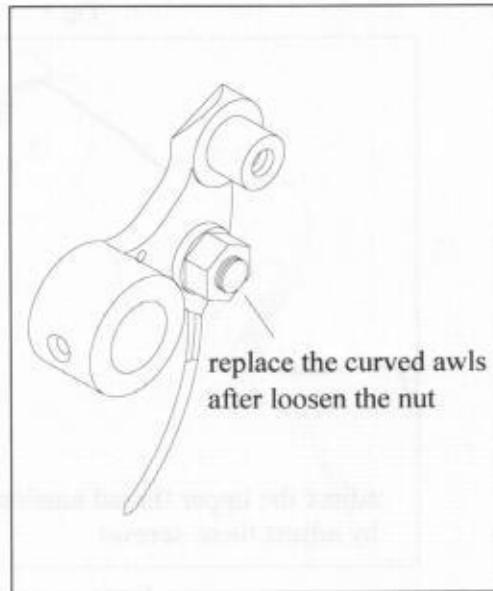

Fig.6
4.4 Replacement of the curved awls(Fig.6):
To replace the curved awls(Fig.6): Loosen the fixing nut, remove the old curved awls and replace a new one, move the new curved awls to it's end position, tighten the fixing nut at last.